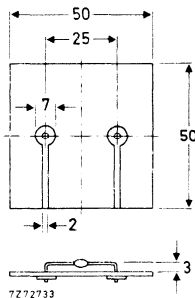

Fig. 2 Mounted on a printed-circuit board.
2. Thermal resistance from junction to ambient when mounted on a 1,5 mm thick epoxy-glass printed-circuit board; Cu-thickness $\geq 40\text{ }\mu\text{m}$; Fig. 2
Fig. 8 Maximum average forward current as a function of the ambient temperature; the curve includes losses due to reverse leakage. Mounting method see Fig. 2. The graph is for switched-mode application; $V_R = V_{RRMmax}$; $\delta = 50\%$; $a = 1,57$.